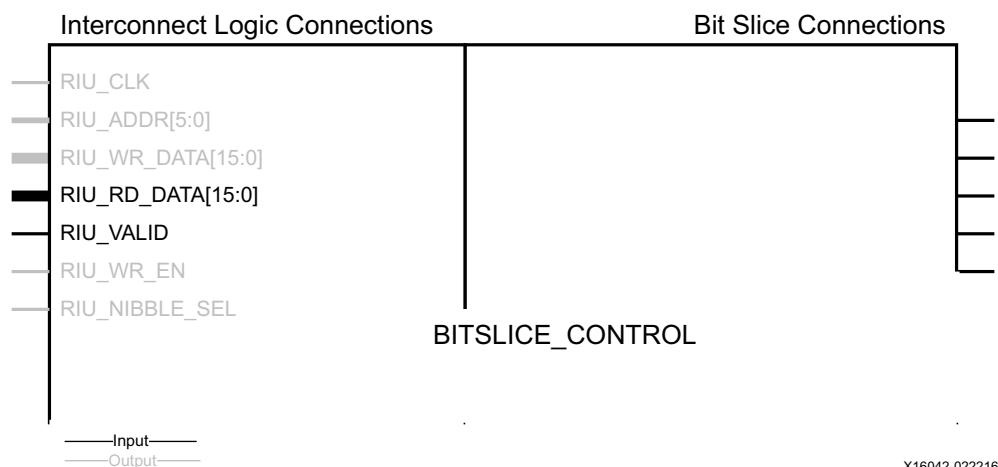

Figure 2-73: RIU in the BITSLICE_CONTROL
Using the register interface unit (RIU), the BITSLICE_CONTROL primitive can be turned into a processor peripheral block. The RIU interface is a set of 64 read/write, 16-bit registers, acting as a dynamically accessible processor peripheral interface providing full control over every function and feature of a nibble: control of all input, output, 3-state, and all delay lines (input, output and quarter), voltage and temperature (VT) tracking, clocking options, and built-in self-calibration (BISC). The RIU interface is represented in the BITSLICE_CONTROL component as shown in Figure 2-73.